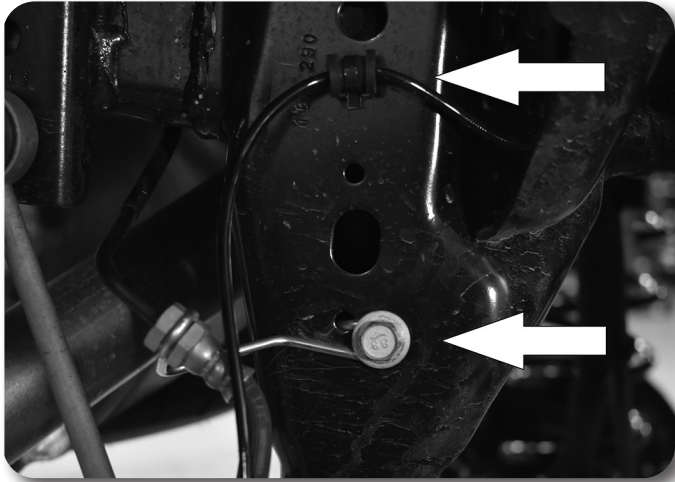

Figure 1
8. Disconnect brake line brackets from the outside of the frame rails. Separate the ABS wire retaining clips from the frame. **Figure 1 &2**